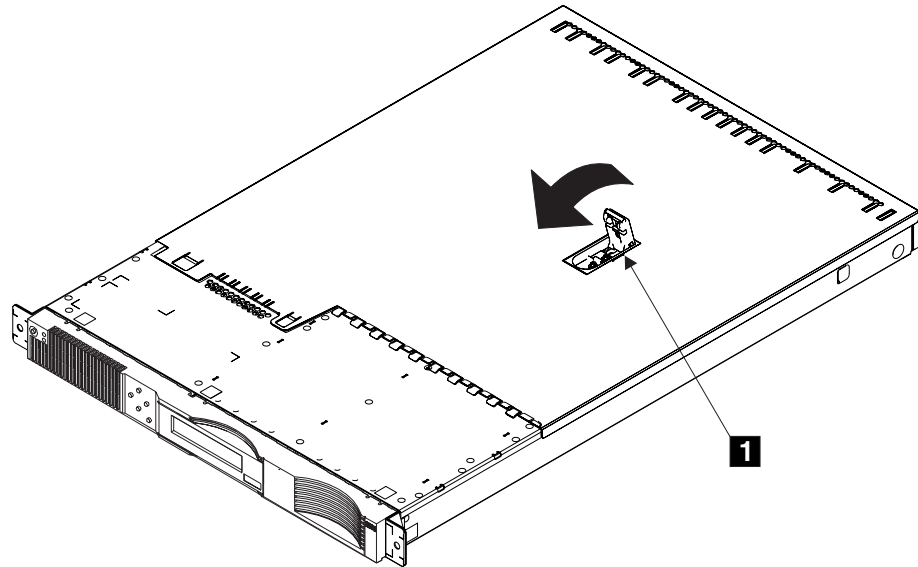

Figure 88. Installing the Top Cover
1. Refer to Figure 88 on page 147.